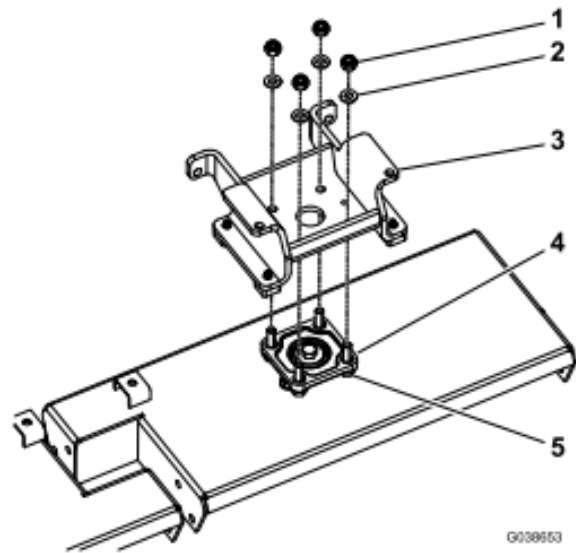

Figure 5
- Using the previously removed bolts (M10 x 40 mm), locknuts (M10), and washers, secure a new roller support to each of the previously removed roller bearings and smoothing rollers (Figure 5).